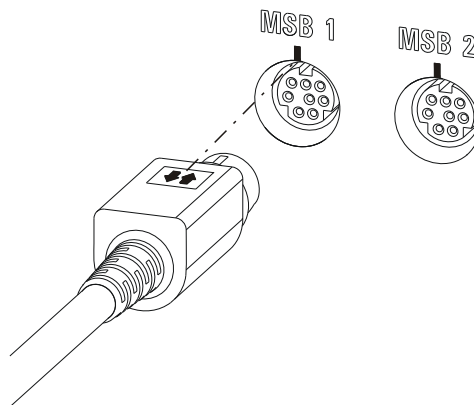

Figure 6 MSB connector
- When making the connection, take care to ensure that the flat part of the MSB plug marked with arrows is pointing in the direction of the marking on the MSB connector (see figure 6, page 18).